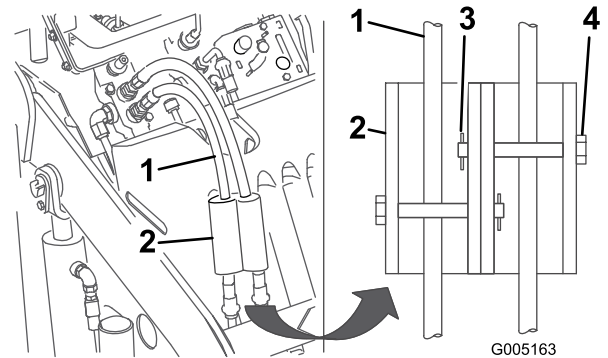

Figure 23
7. Install the cylinder locks over the hydraulic hoses and secure them with the clevis pins and cotter pins (Figure 23).